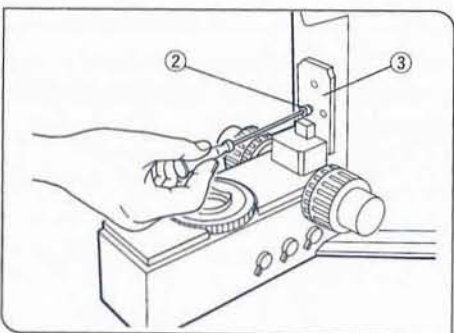

Fig. 31
3. Turn the coarse adjustment knob and raise the focusing block ③ to where the stopper screw ② in the arm becomes visible. (Fig. 31)
4. Using the Allen (hex) driver, loosen and remove the upper stopper screw ②.